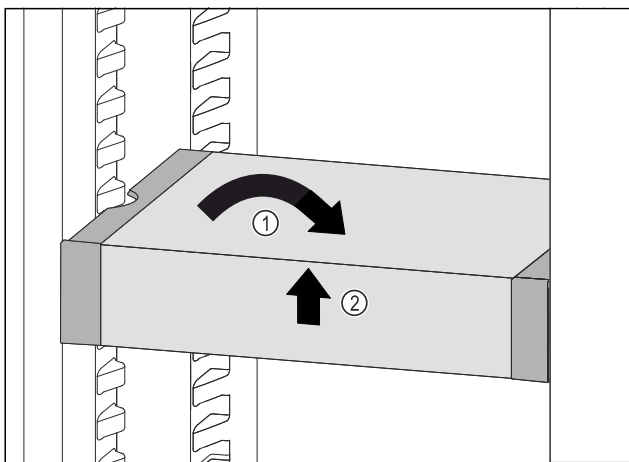

Fig. 79
- Set VarioSafe straight. Fig. 79 (1)
- Lift VarioSafe at the front. Fig. 79 (2)